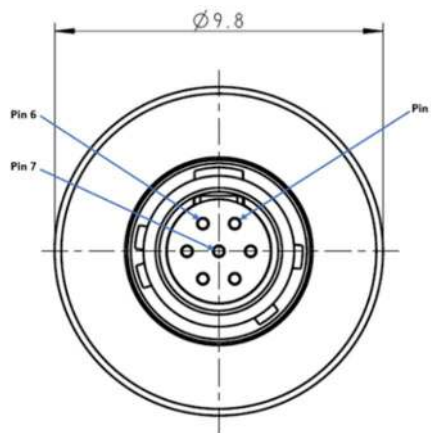

Figure 7 - MC1 - 7 Pin Circular Connector (ODU GKCWAM-P07WBC0-000L) pin numbering
**Note that the MU1-001 uses use the “B” keyway** of this connector family. The MU1-001 connector, from the perspective of looking at the connector from the outside of the LRF, is numbered according to Figure 7.
**Note that the MC1-001 uses use the “A” keyway** of this connector family. The MC1-001 connector, from the perspective of looking at the connector from the outside of the LRF, is numbered according to Figure 7.